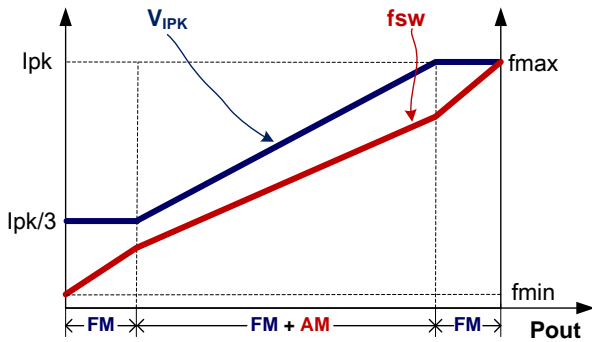

Fig.2
To meet the tight requirement of averaged system efficiency and no load power consumption, a hybrid of frequency modulation (FM) and amplitude modulation (AM) is adopted in KP3114 which is shown in the Fig 2.